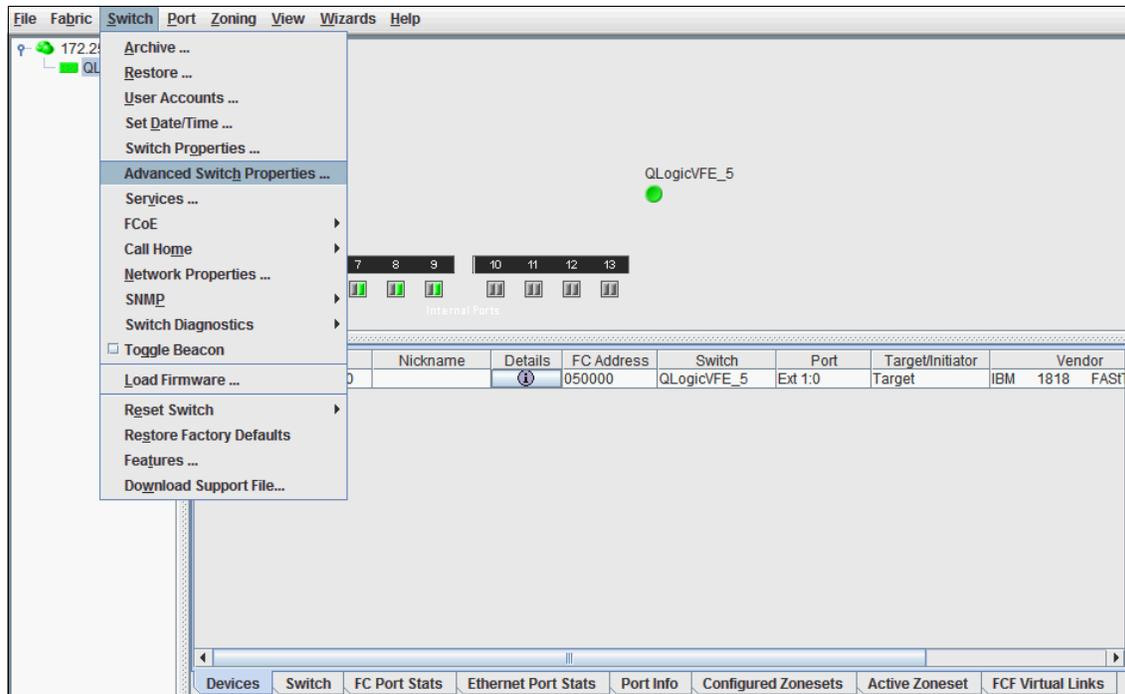

Figure 6-28 Virtual Fabric Extension Module GUI
1. In the main window of the Virtual Fabric Extension Module GUI (Figure 6-28), select **Switch** → **Advanced Switch Properties**.